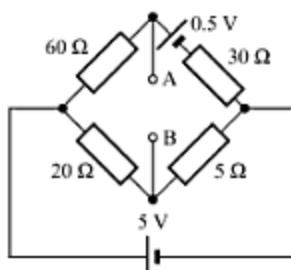

Fig. 4.50
20. Using Thevenin's theorem, calculate the current that would flow in a  $76\text{-}\Omega$  resistor connected between terminals A and B of the circuit shown in Fig. 4.50. [Ans.  $10\text{ mA}$ ]